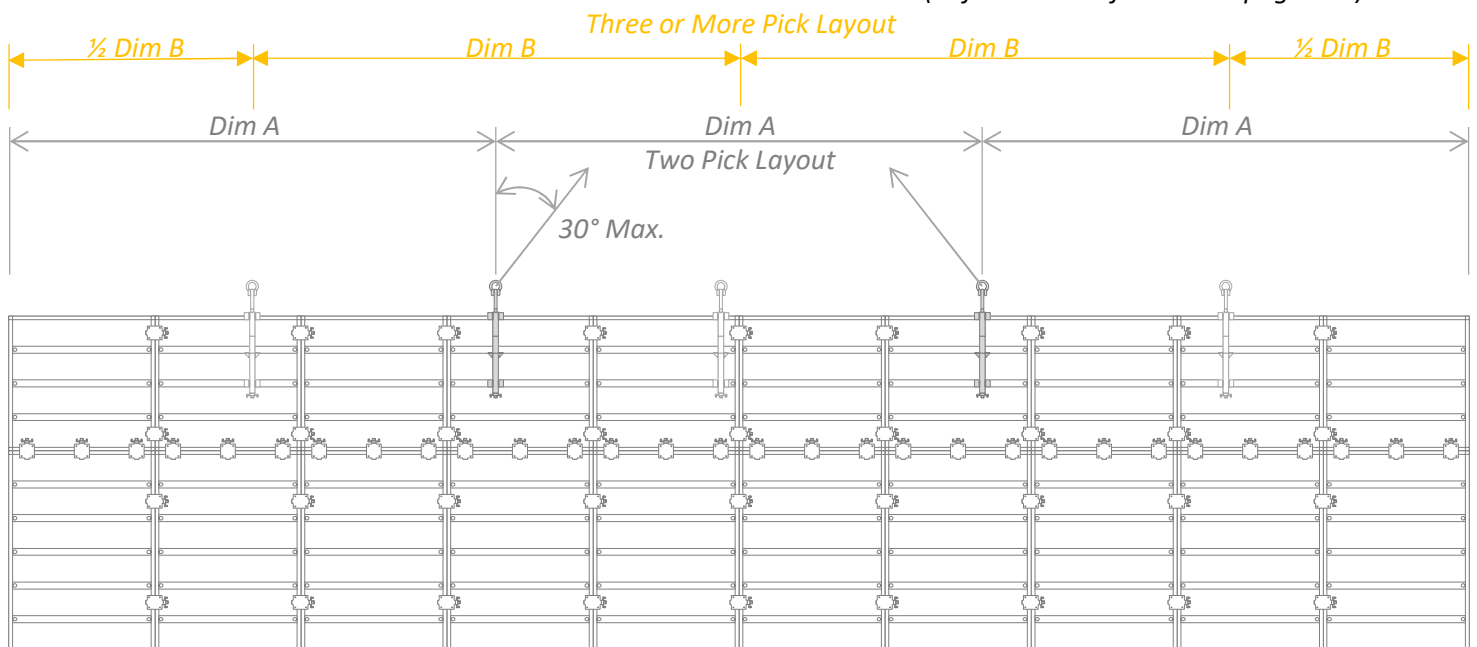

Figure 2. Example of Lifting Assembly Placement
- When using two picking points, the approximate placement location for each lifting assembly is a distance from either end of one-third the overall gang length (Figure 2).
- When using three or more picking points, the approximate placement locations for each lifting assembly is a distance from either end of one-half the overall gang length divided by the number of pick points. The placement of the interior lifting assemblies are to be evenly spaced between the two end lifting assemblies (Figure 2). For example: if the overall gang length is 60' long and loading limit requires three lifting points, then the placement would be calculated at  $(60' / 2) / 3 = 10'$  from either end, plus a center point placed at or near the middle of the form gang.
- Rigging to lifting points should never exceed an angle of 30 degrees from the vertical axis at each location (Figure 2). In cases with extremely long and heavy lifts, it may be necessary to use a lifting bar to properly space rigging for placement to the picking locations.